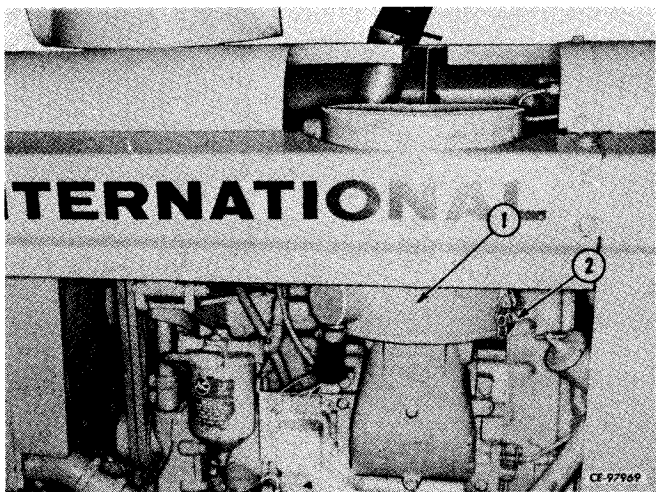

Figure 2-21
Remove side panel. Unfasten body springs (2, Fig. 2-21) and lift body (1) off.